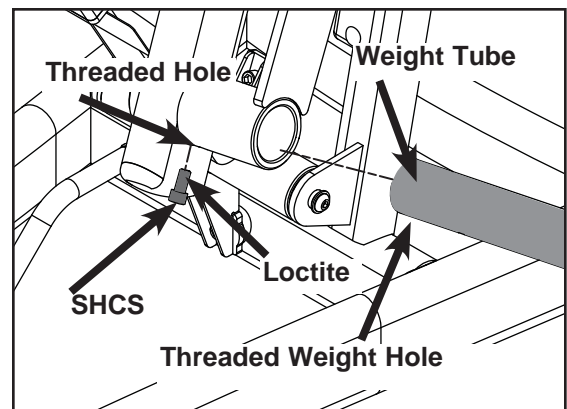

Figure 1
- A. Remove SHCS (both sides). See Figure 1.
- B. Place weight tube in frame. See Figure 1.
- C. Align weight tube hole with threaded hole in frame. See Figure 1.